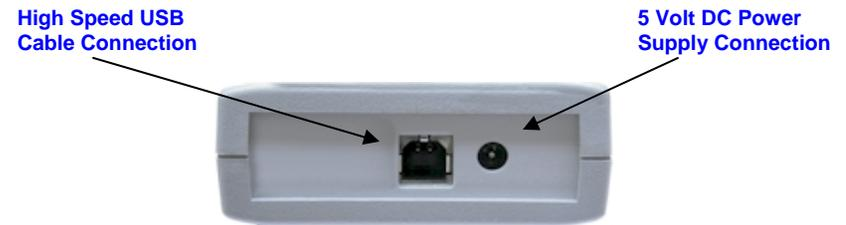

FIGURE 1—USB & Power End Panel
2. Connect the 5v DC power plug of the power supply to the 5-volt DC input on the **USB560m** (see figure 1).
3. Attach the USB cable to an available USB port on the PC and to the USB connector on the **USB560m** (see figure 1).